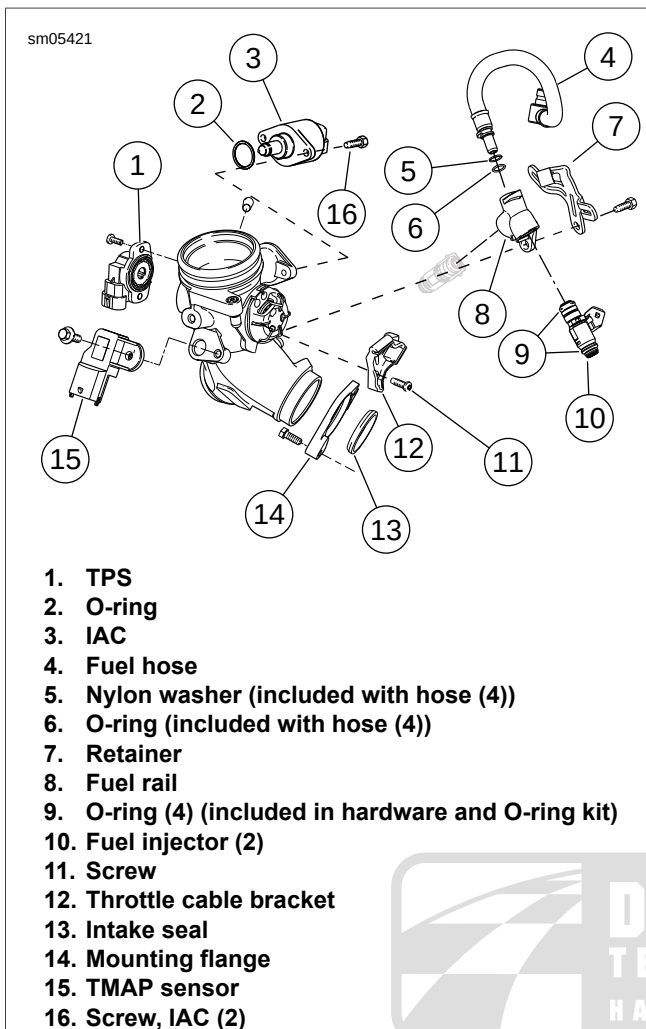

Figure 4-46. Induction Module
1. See Figure 4-46. Remove retainer (7). Remove fuel rail (8) with hose (4) and injectors (10) from the induction module.
2. Remove hose (4) and injectors (10) from fuel rail.
3. Remove cable bracket (12).
1. See Figure 4-46. Install the following: